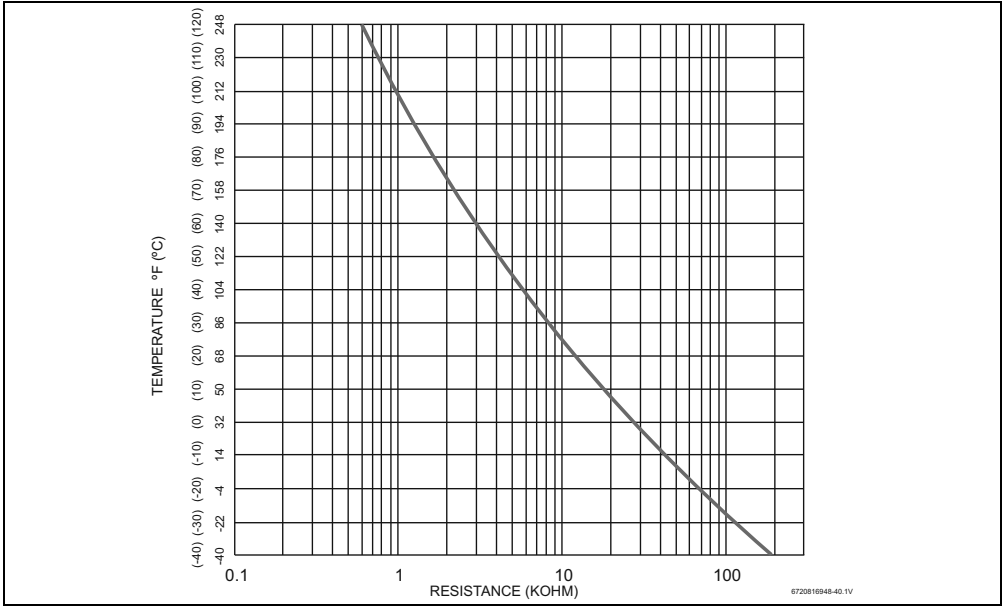

Fig. 64 Inlet, outlet and heat exchanger water temperature sensors characteristics
- 2) see temperature resistance charts in fig. 64 and 65.